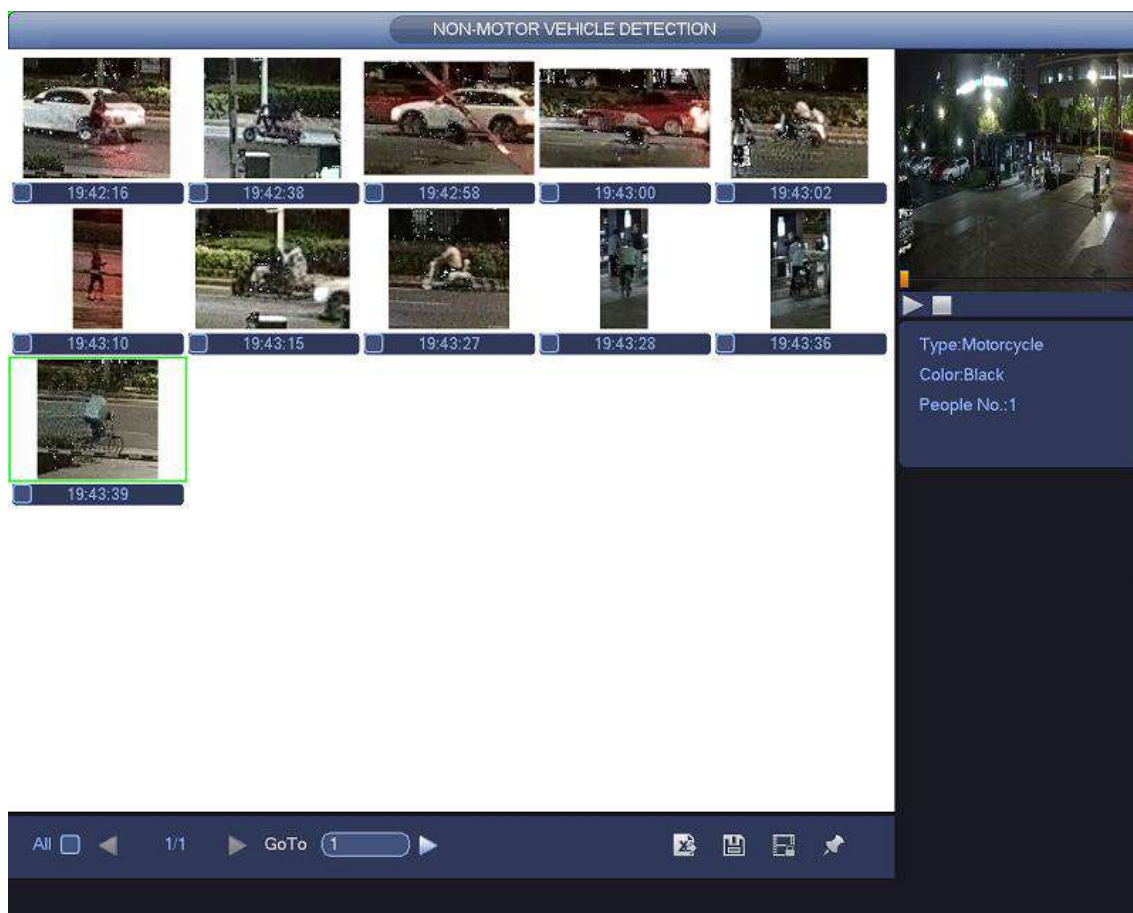

Figure 4-114
- The pictures meeting the criteria are displayed. See Figure 4-114.